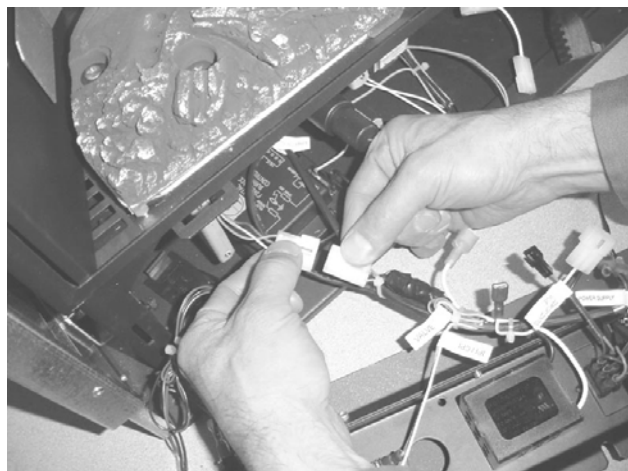

Figure 5
- 5 Disconnect the molex connector leading to the gas control valve (see Figure 5).